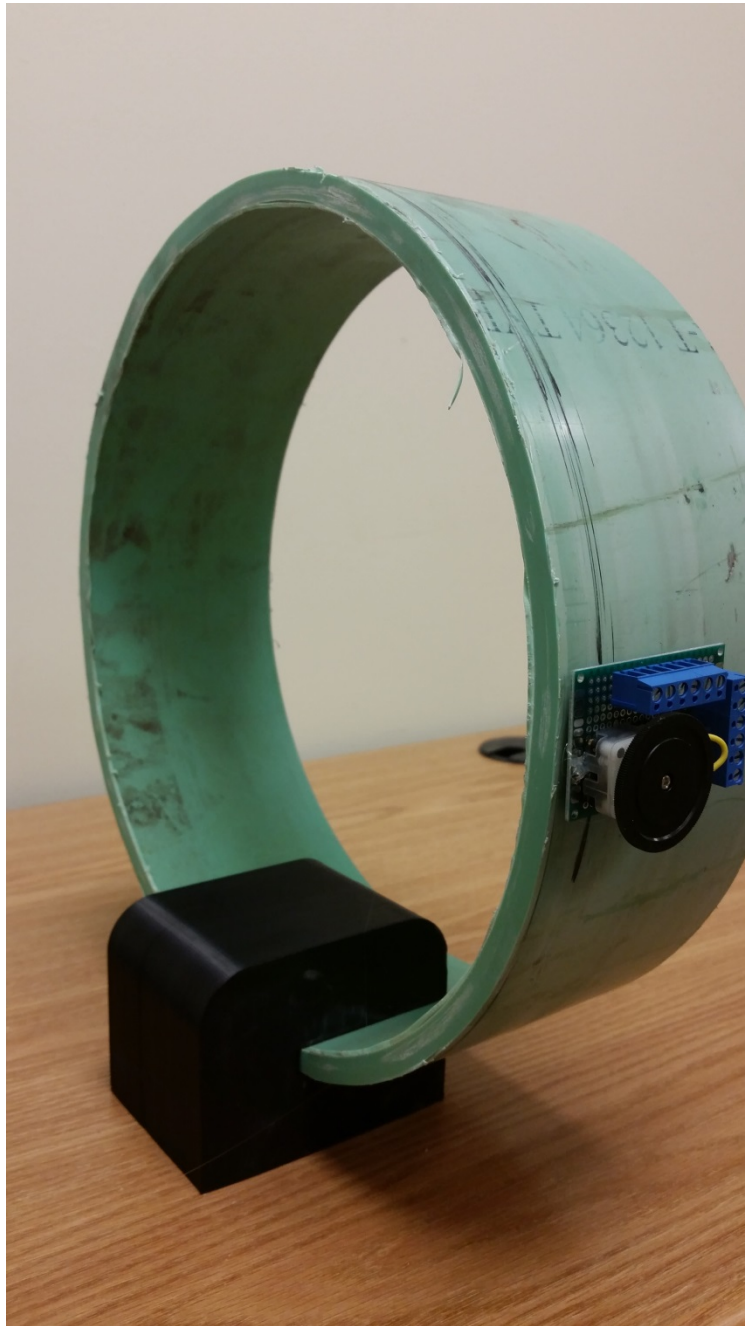

Figure 16: Inductor jig stand with 3D printed holder installed.
11. 3D print the jig stand holders using the .stl file included in the lab materials. Then slide the holder onto the jig stands, and you're all done! See Fig. 16.